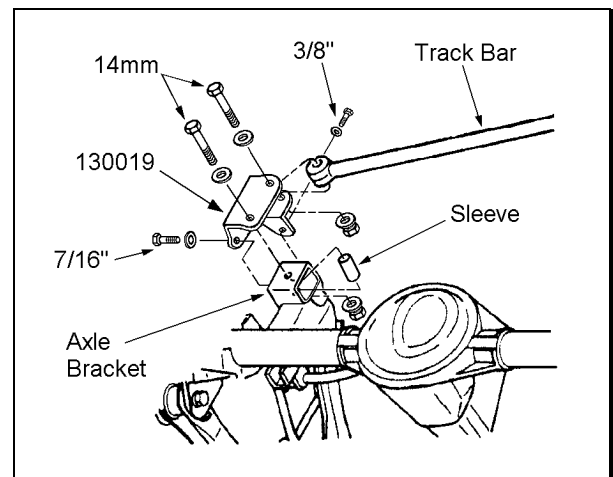

Figure 8
1. Place track bar bracket 130019 on top of the axle bracket as shown in figure 8. Insert a 14mm bolt through both brackets. Using the new bracket as a template, mark the two additional holes on the axle bracket.
3. Reinstall the track bar bracket and attach it to the axle with the sleeve and hardware from kit 860072. See Figure 8. Tighten to specifications.